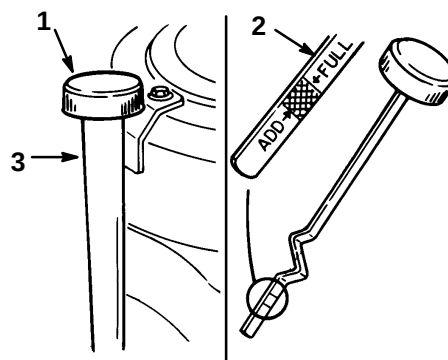

Figure 19
3. Clean around the oil dipstick (Fig. 19) so dirt cannot fall into the filler hole and damage the engine.
4. Unscrew the oil dipstick and wipe the metal end clean (Fig. 19).
5. Slide the oil dipstick fully onto the filler tube, do not thread onto tube (Fig. 19). Pull the dipstick out and look at the metal end. If oil level is low, slowly pour only enough oil into the filler tube to raise the level to the “FULL” mark.